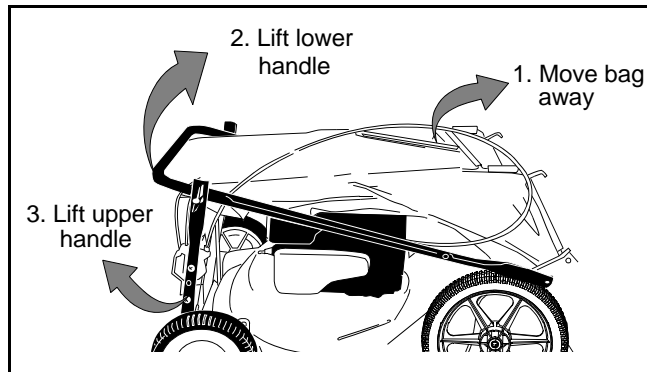

Figure 1
1. Remove grass bag from the unit and set it out of the way. See Figure 1. Remove any packing material between the handles.
2. Raise the lower handle in the direction shown in Figure 1 till it snaps into place.
3. Raise the upper handle in the direction shown in Figure 1.